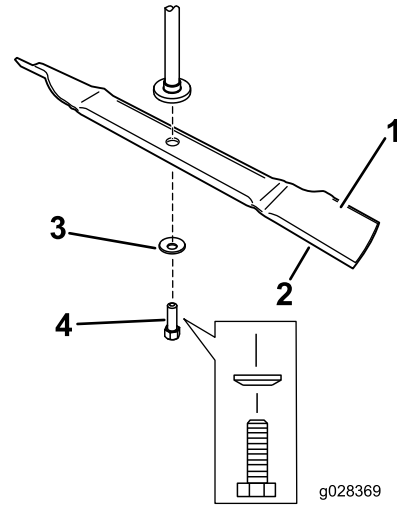

Figure 3
1. Install the blade onto the spindle shaft (Figure 3).
2. Install the curved washer (cupped side toward the blade) and the blade bolt (Figure 3).